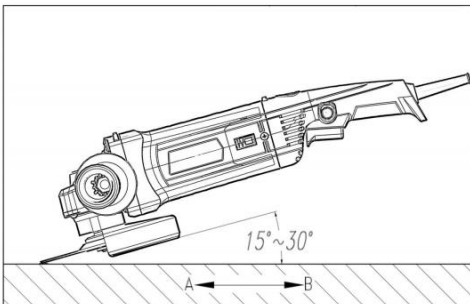

Fig8
Effective and safe for grinding and sanding operation (Fig8)
2. Generally speaking, please keep the grinding and cutting part of the wheel and disc in the scope of 15 to 30 degree with the surface of processing object. (Fig 8)